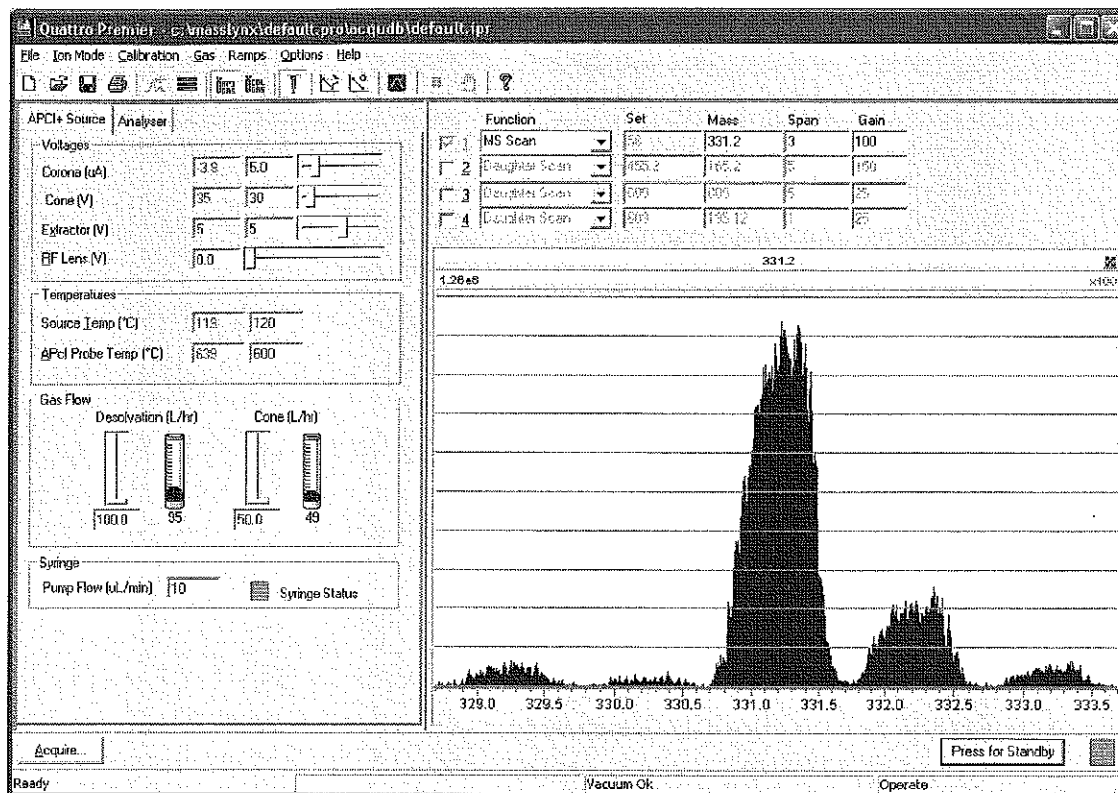

Figure 3-5 Tune Window with a 17- α -Hydroxyprogesterone Peak
21. Observe the 17- α -hydroxyprogesterone peak at m/z 331.2 ($\text{M}+\text{H}^+$) in the Tune window (see Figure 3-5).
31. Confirm that the displayed peaks have the correct resolution and the isotopes are resolved as shown in Figure 3-5. If necessary, adjust the Analyser page LM Resolution 1, HM Resolution 1, and Ion Energy 1 slider bars to achieve optimum resolution.
32. In the Tune window, determine the m/z value of the peak's center to one decimal place (Figure 3-5). Record this value.